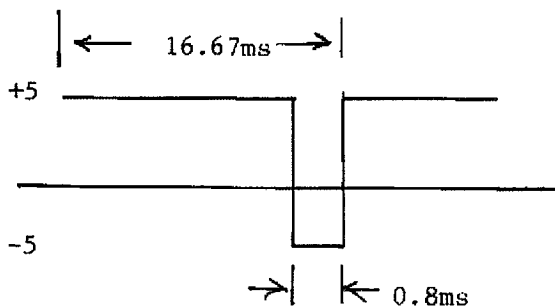

FIGURE 2
11. By observation with oscilloscope, change the symmetry of the square wave as Figure 2.